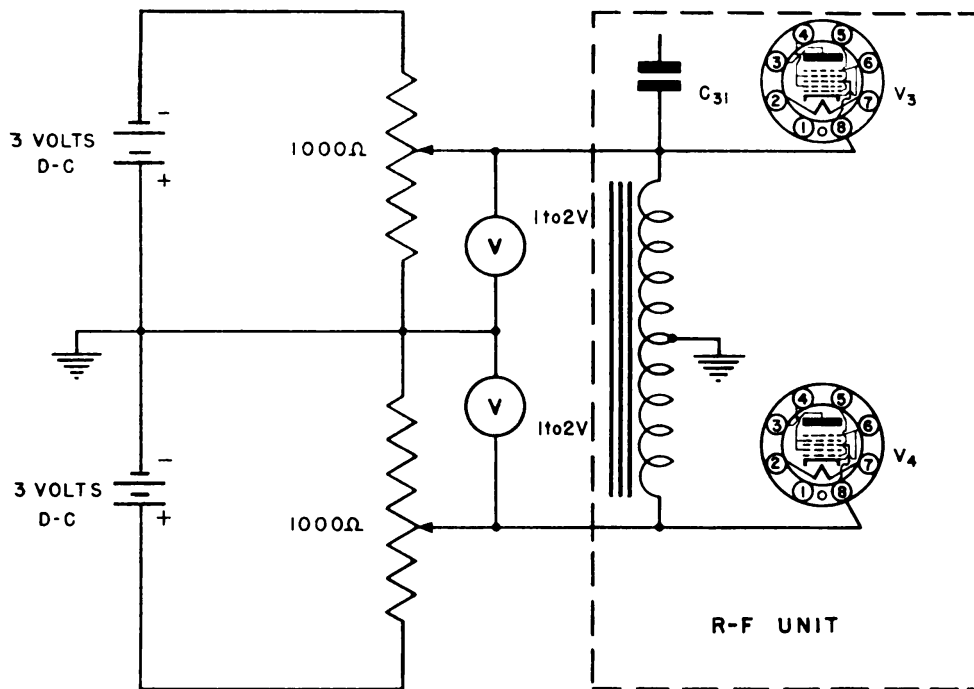

Figure 15—Connection diagram for determination of modulation voltage (d-c method)
(1) Follow procedure outlined in sub-paragraphs 15c(1) through (8).
(2) Connect batteries, potentiometers, and voltmeters to audio input grids of tubes V_3 and V_4 as shown in figure 15.
(3) Set potentiometers so the voltmeters read zero.
(4) Connect the output terminals of the signal generator to Frequency Meter BC-221-(*).
(5) Tune the frequency meter to 1900 kilocycles.
(6) Turn the band switch to I.F. 1.9–4.5 MC.
(7) Tune the signal generator to 19.
(8) Adjust the OSC. FREQ. CORRECTOR control until zero beat is obtained as heard in the headsets of the frequency meter.
(9) Tune the frequency meter to 1905 kilocycles.
(10) Increase the voltages on the grids of tubes V_3 and V_4 by adjusting the potentiometers, keeping the voltages equal, until zero beat is obtained.
(11) Record the voltage indicated on the voltmeters.
(12) Disconnect the batteries, potentiometers, and voltmeters.